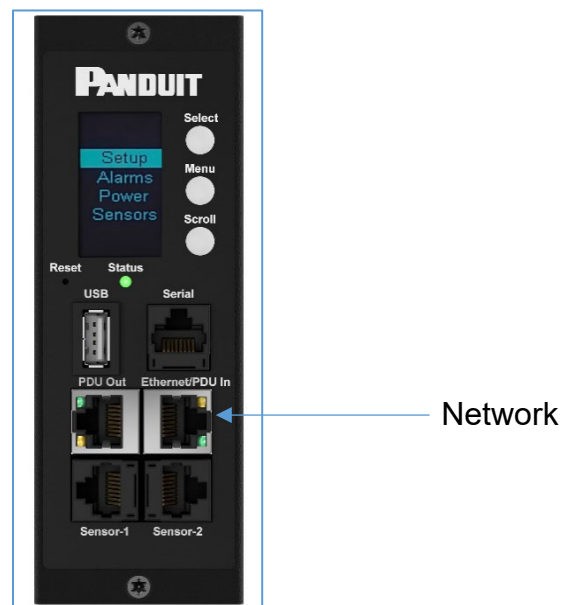

Figure 1: Primary GB Ethernet Port for Network Connection
1. Connect an Ethernet cable to the Ethernet port on the PDU (see Figure 1).